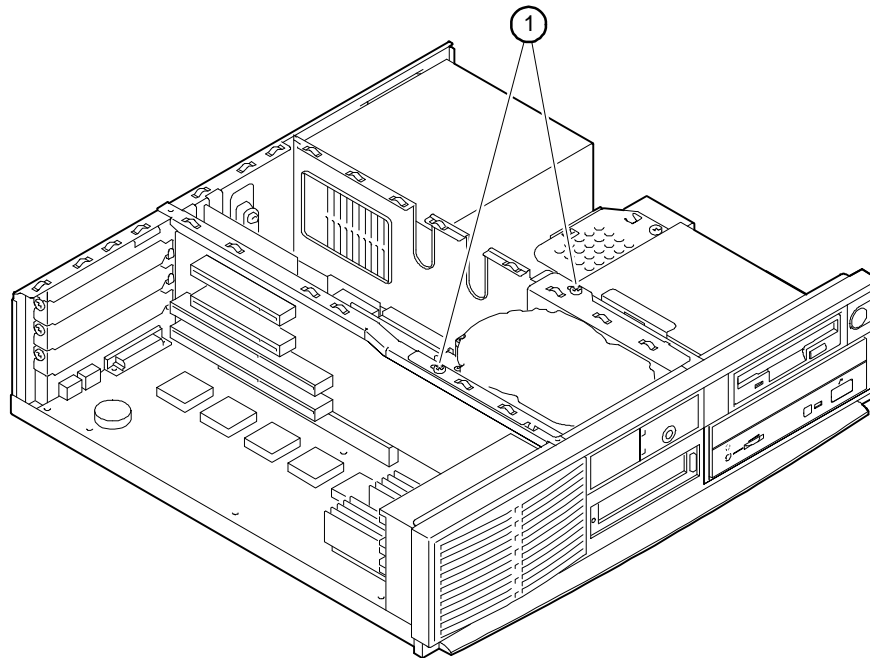
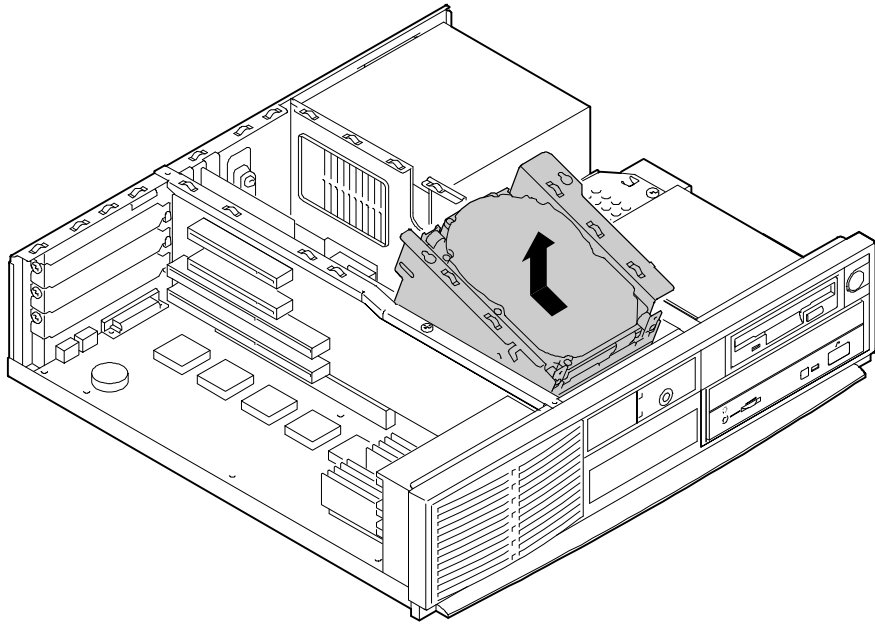

Figure 4-10 Drive Bracket Screws
Figure 4-11 Removing Drive Bracket
2. Loosen the two screws ① holding the drive bracket, lift the rear of the bracket, and then slide the bracket to the rear slightly and lift it out of the system unit, as Figure 4-10 and Figure 4-11 show. Remove cables from the drive *after* the assembly has been lifted out of the system unit.